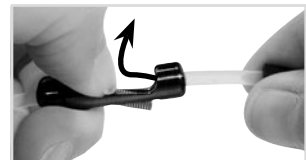

fig. 14
- 3 Take the free end of the pulling cable with threaded sleeve out of the holder (fig. 14).